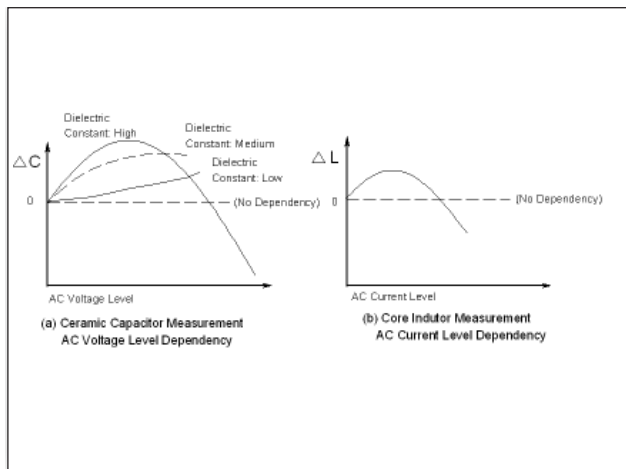

Figure 2-2. Signal Level Dependency
Signal level (AC) dependency is exhibited in the following ways (Figure 2-2):
- Capacitance is dependent on AC voltage level (dielectric constant (K) of the substrate).